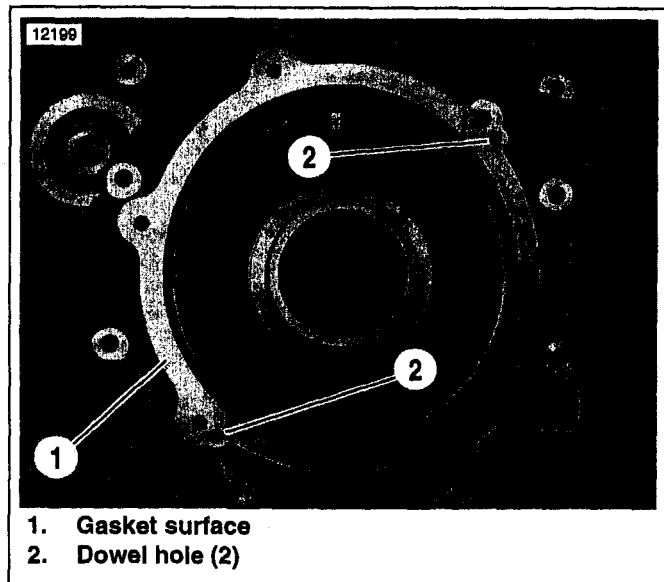

Figure 16. Crankcase
29. See Figure 16. Position **new** crankcase gasket (Part No. 34934-06 from 94445 recall parts kit) in place on gasket surface (1). Be sure dowels in gasket engage dowel holes (2) in crankcase.